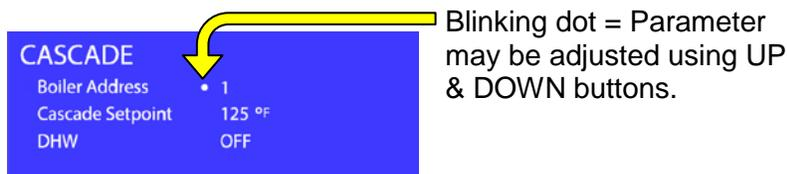

Figure 1-20: Sub Menu – Changing the Parameter Setting
- c) When the Boiler Address parameter is selected, press the **Ok button**. The dot then appears to the left of the parameter setting (Figure 1-20) and begins to blink, indicating it may be adjusted.